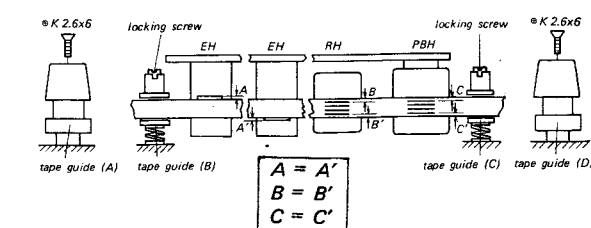

Fig. 3-1-8. Tape Path Adjustment
3-1-5. Tape Path Adjustment (See Fig. 3-1-8.)
After individual head replacement, make head height adjustment for the replaced head, referring to Fig. 3-1-8.
- (1) Make sure that tape runs as shown in Fig. 3-1-8.
- (2) If not, adjust tape guides (B) and (C).